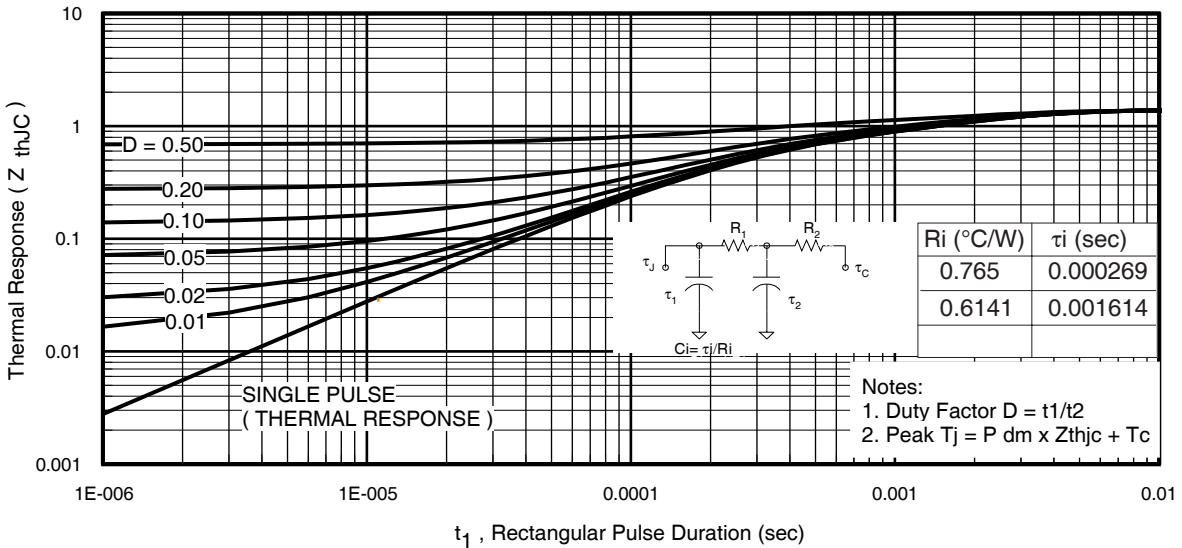
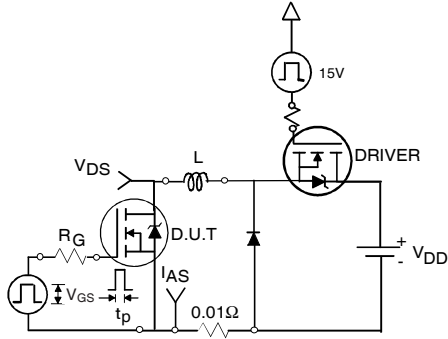

Fig 11. Maximum Effective Transient Thermal Impedance, Junction-to-Case
Fig 12a. Unclamped Inductive Test Circuit
3. Equation below based on circuit and waveforms shown in Figures 12a, 12b.
$Z_{thJC}(D, t_{av})$ = Transient thermal resistance, see figure 11)
- ① Repetitive rating; pulse width limited by max. junction temperature. (See fig. 11).
- ② Limited by T_{Jmax} ; starting $T_J = 25^\circ C$, $L = 0.089mH$, $R_G = 25\Omega$, $I_{AS} = 36A$, $V_{GS} = 10V$. Part not recommended for use above this value.
- ③ Pulse width $\leq 1.0ms$; duty cycle $\leq 2\%$.
- ④ C_{OSS} eff. is a fixed capacitance that gives the same charging time as C_{OSS} while V_{DS} is rising from 0 to 80% V_{DSS} .
- ⑤ Limited by T_{Jmax} , see Fig.12a, 12b, 15, 16 for typical repetitive avalanche performance.
- ⑥ This value determined from sample failure population. 100% tested to this value in production.
- ⑦ When mounted on 1" square PCB (FR-4 or G-10 Material). For recommended footprint and soldering techniques refer to application note #AN-994
- ⑧ R_θ is measured at T_J approximately $90^\circ C$